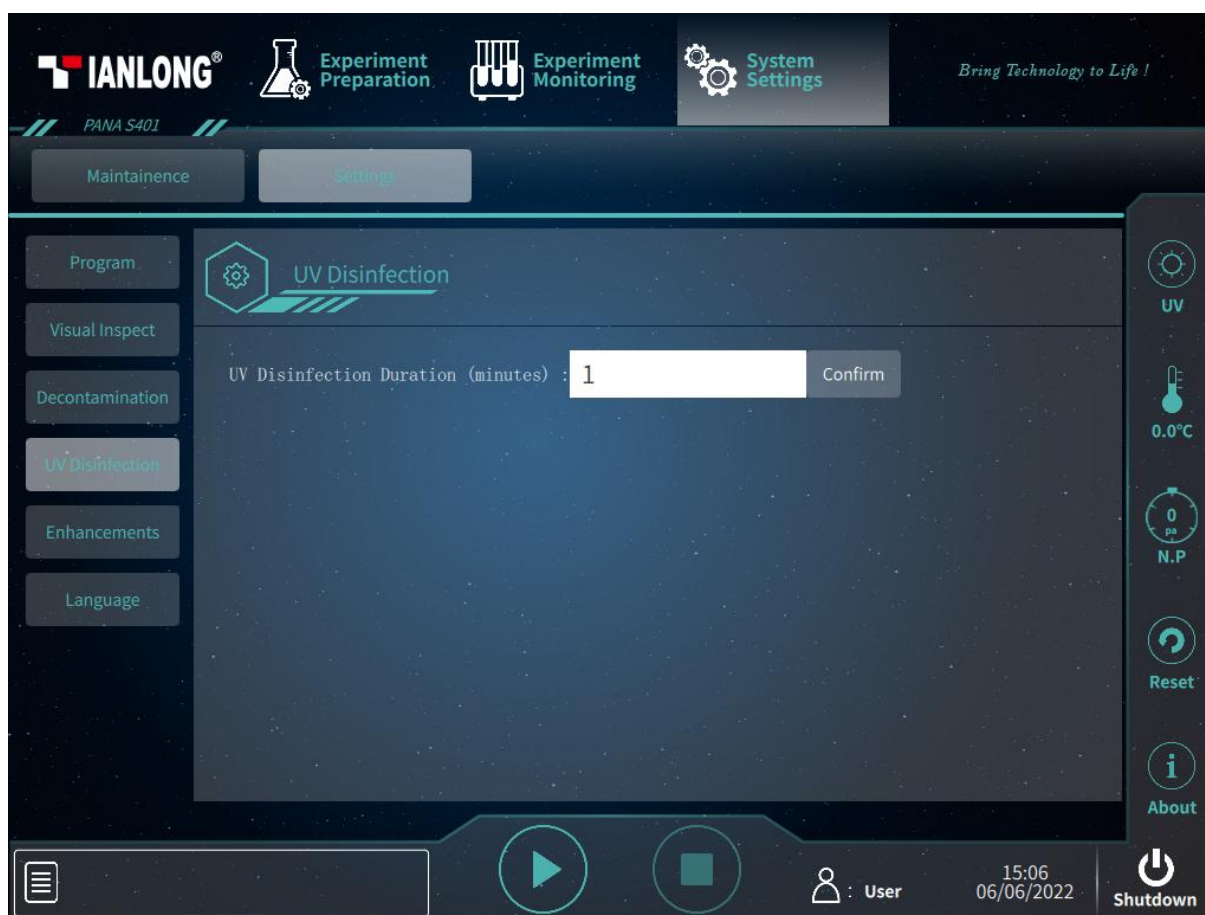

Figure 5-25. System Settings Interface – Settings Tab – UV Disinfection
- **< UV Disinfection >**: User could click this function key to set the UV disinfection duration which could be set as 1-240 minute(s), as shown in figure 5-25.